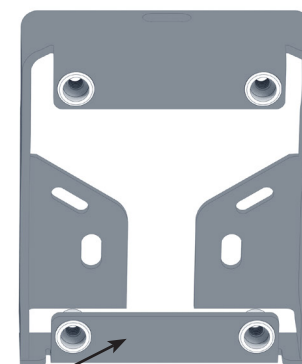

FIG 2
**1.1 Confirm Sensor Type:** See FIG 1 for the difference between the 2019-2024 and 2025+ Adaptive Radar Sensors. The updated **Center Bracket** has a notch (FIG 2) cut out to accommodate the fitment of both sensor models. If your **Sprinter Van** is *newer* than 2024, and your **FVC Front Bumper** *doesn't* have the notch, you'll need to cut one out.